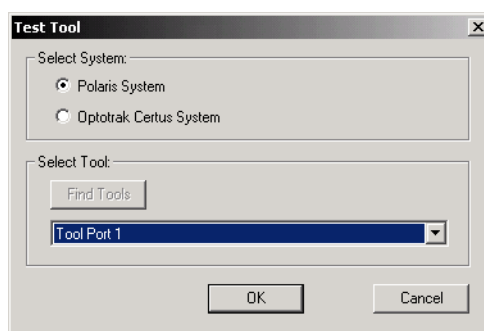

Figure B-1 Test Tool Dialog
3. Select the NDI measurement you are using to characterize the tool. In Figure B-1, Optotrak Collection is selected.